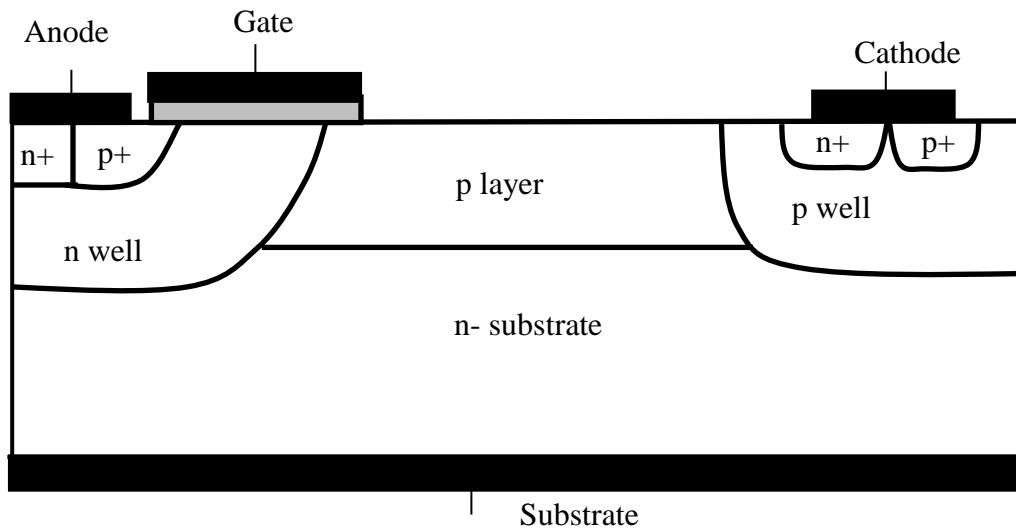

Figure 2
3 The structure in Figure 2 is a lateral power device.
- (d) The device in Figure 2 is based on a lateral planar technology. Draw the cross-section of an equivalent device using a vertical technology with a trench gate. Give one advantage and one disadvantage of the vertical structure compared to the lateral structure. [25%]